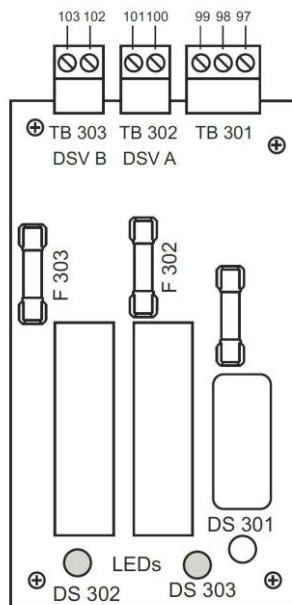

Figure 2-28. DSV Lockout Relay Board
2. On the DSV/Lockout Relay board, Figure 2-28, remove fuse F302 or F303. F302 and F303 are the DSV fuses.